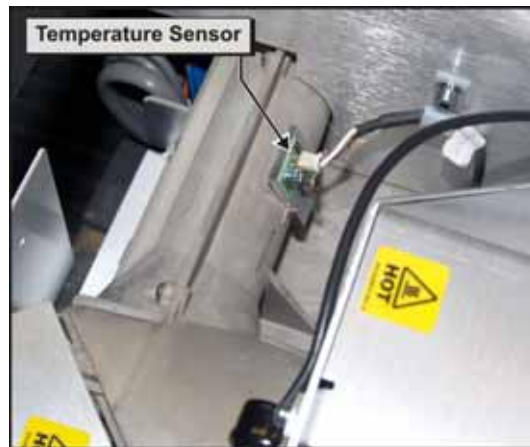

Figure 5-64 Integrator Temperature Sensor
3. Use a #1 Phillips™ to remove integrator temperature sensor (**Figure 5-64**).